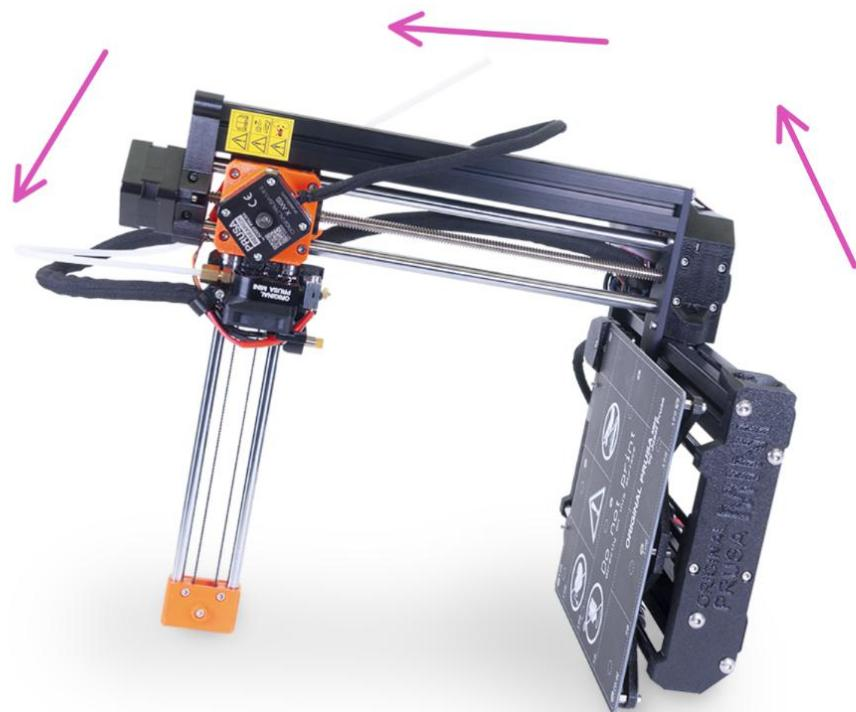

Figure 5.1.20
**A:** As shown in Figure 5.1.20. Carefully tilt the printer on its side.